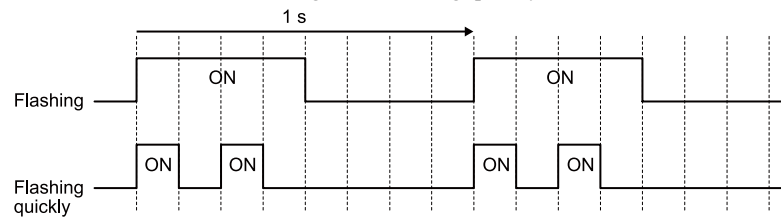

Figure 1.3 LED Flashing Statuses
*1 Refer to Figure 1.3 for the difference between “flashing” and “flashing quickly”.